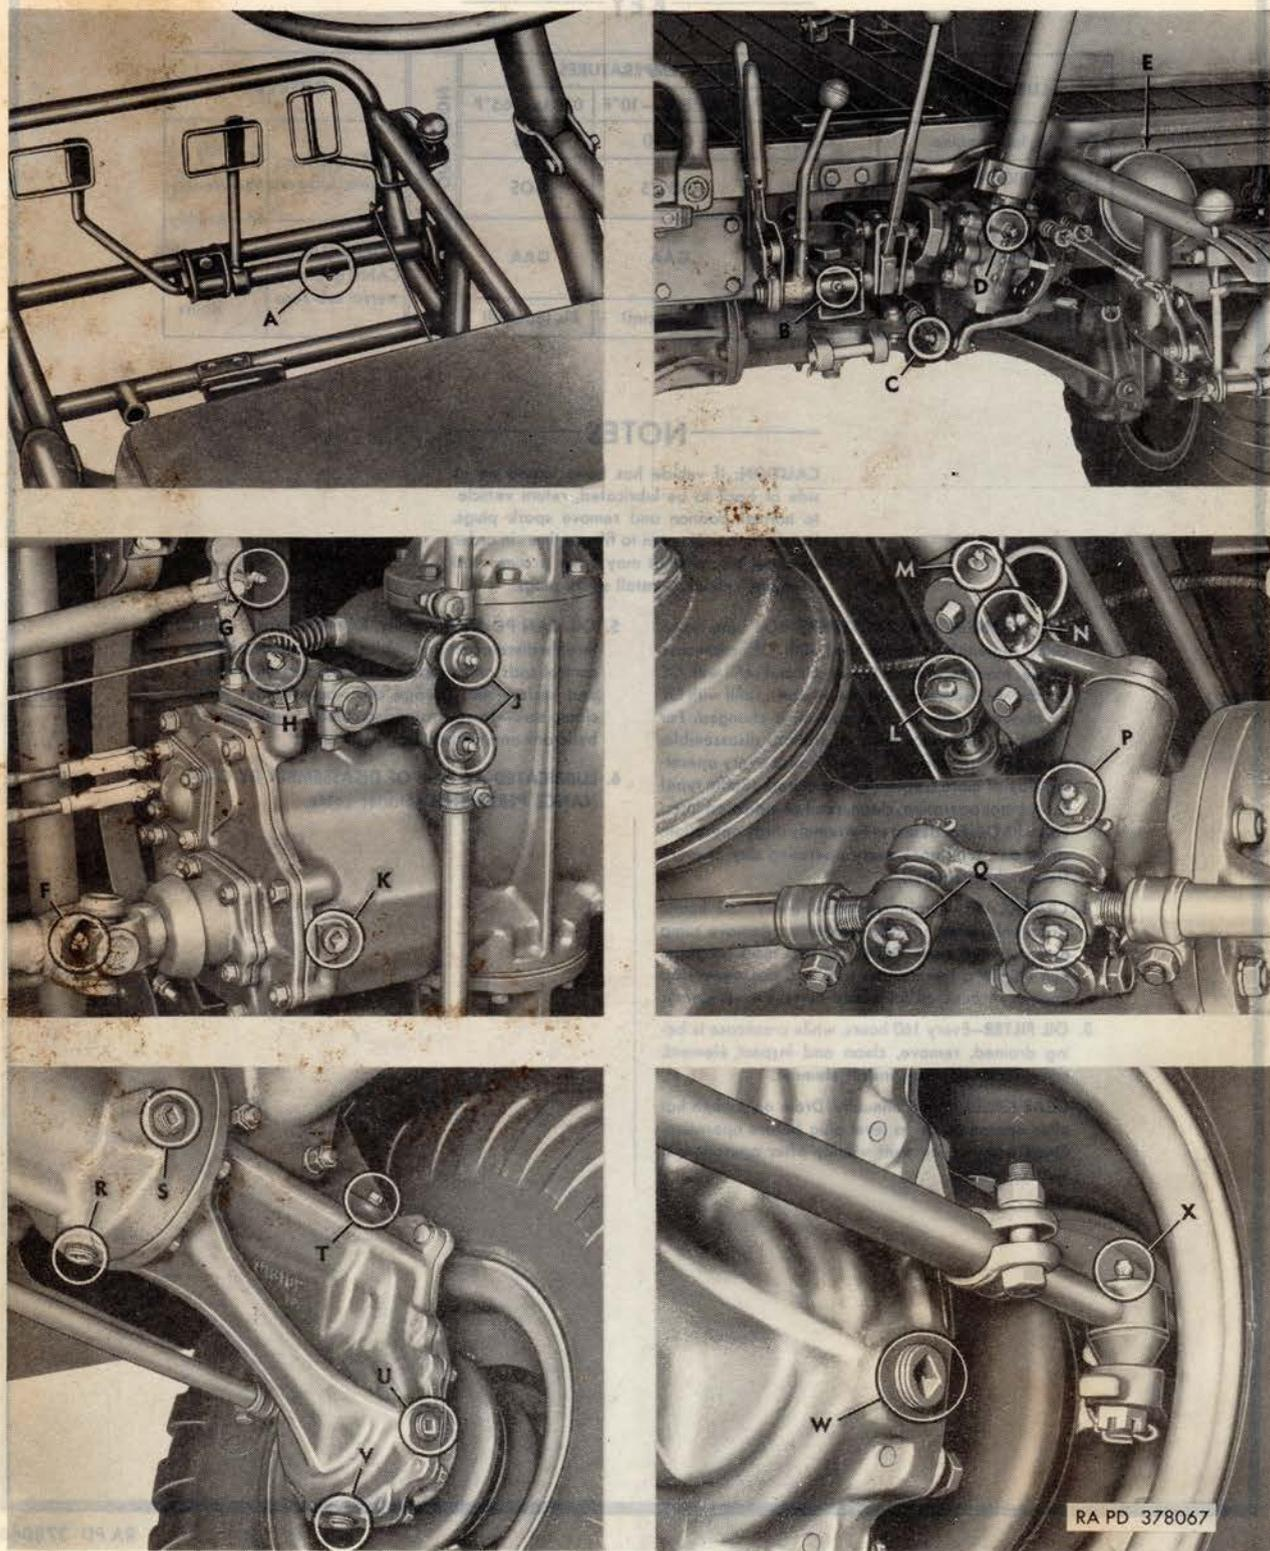

Figure 34. Lubrication points A to X.
- (1) Lubricating fittings and oilholes are shown in figures 34 and 35 and are references to the lubrication chart. Wipe these devices and the surrounding surfaces clean before and after lubricant is applied.
- (2) A $\frac{3}{4}$ -inch red circle should be painted around all lubricating fittings and oilholes.